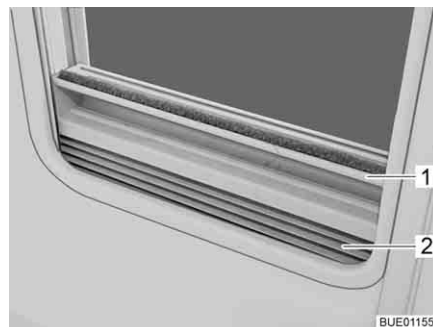

Fig. 39 Roman shade
- Grip the Roman shade (Fig. 39,2) in the middle of the holding bar (Fig. 39,1), pull it upwards and then release it at the desired height. The Roman shade will stay at this height.